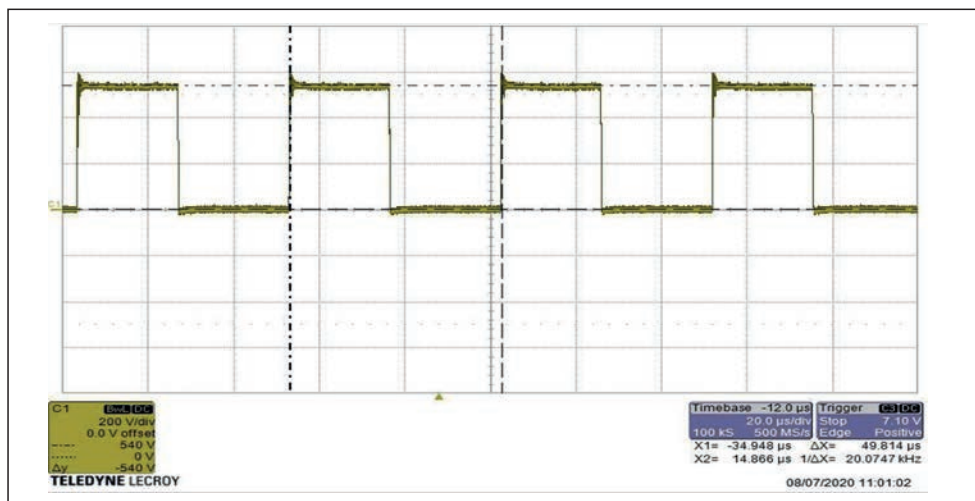

Figure 5: CMB test plot
- Chopper mode bias (CMB). The purpose of this test is to verify the robustness of the device when it is operating in chopper mode at high temperature. Test conditions were the following: VGS = -5V, switching frequency = 20kHz, duty cycle = 0.5, T = 150°C, test duration = 1,000 hours. Figure 5 shows the CMB test plot after 1,000 hours (200V/div).